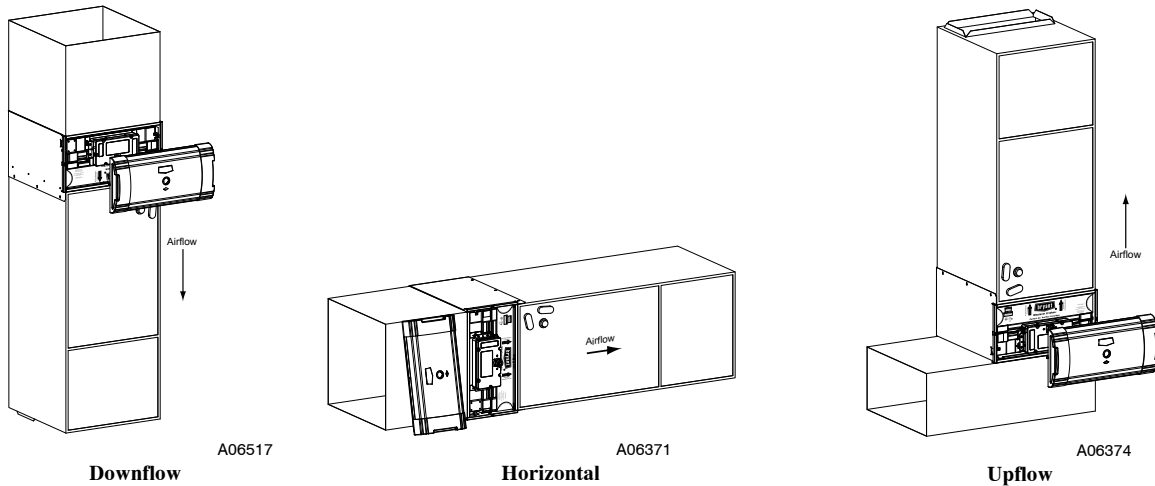

Fig. 4 - Perfect Air Air Purifier Cabinet Orientation
- Identify a mounting orientation for the Perfect Air Air Purifier in the return air duct (see Fig. 4).
- Position the cabinet between the fan coil and return air duct (see Fig. 4 and 5). A transition duct may be required.